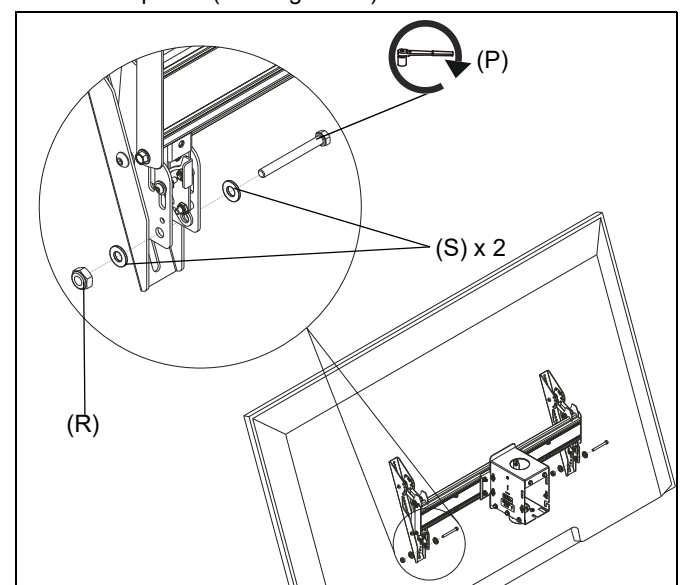

Figure 15
1. Use 5/16-18 x 2" hex head carriage bolt (P), 5/16-18 hex nut (R) and two 5/16" washers (S) to lock each interface bracket latch in place. (See Figure 15)